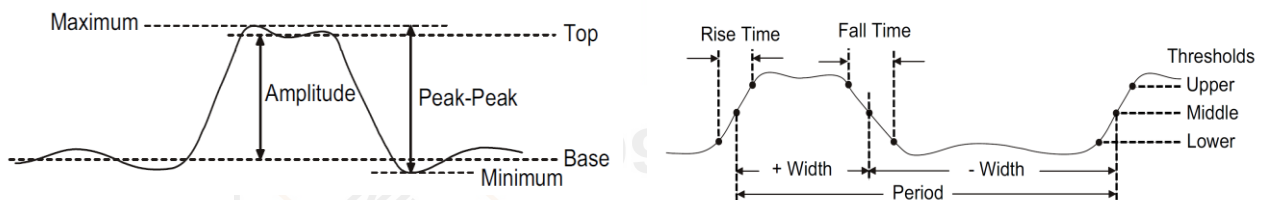

Fig. 1: Different measurement parameter
1. To enable the output of the DC supply, push the output on/off button (see fig 1)